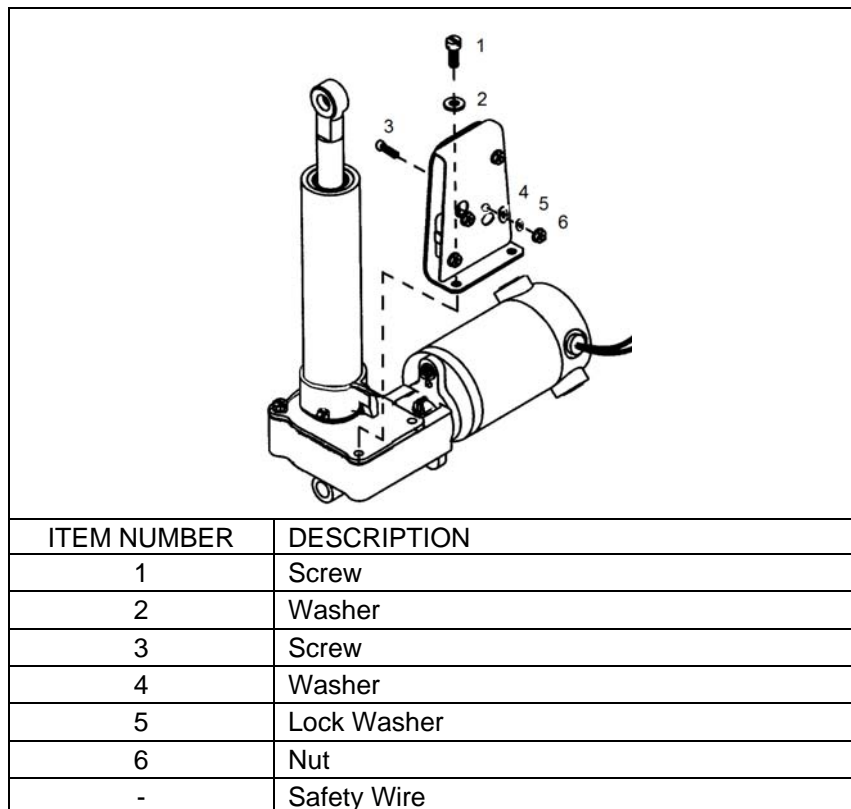

Figure 3. Cyclic Trim Switch Assembly
- 6.7 Remove the safety wire, screws (1) and washers (2) attaching the switch assembly to the trim actuator. Remove the switch assembly (*Figure 3*).